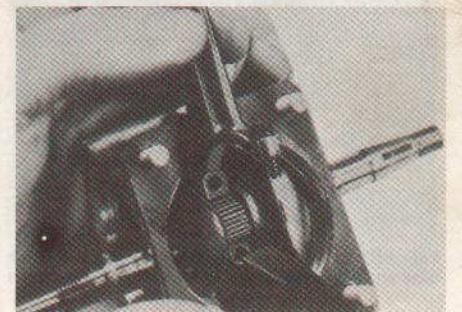

Fig. PR4-7—View showing correct method of installing connecting rod using the Pioneer special holding tool.
**CONNECTING ROD.** Connecting rod can be separated and removed after removing the cylinder and piston. Make certain that all of the 28 loose rollers at crankpin end are removed. New crankpin bearing rollers should be used each time connecting rod is removed. Remove the backing strip from the rollers, then carefully wrap the needles around the crankpin journal. The Pioneer special tool (No. 427899) can be used to hold the rod cap in place while installing the cap retaining screws (Fig. PR4-7).